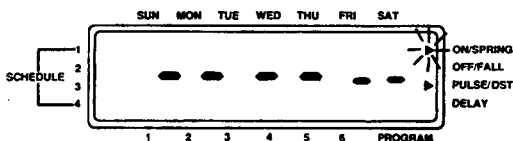

Figure 5
- The display digits show HR MO DATE (see Figure 5 for display)